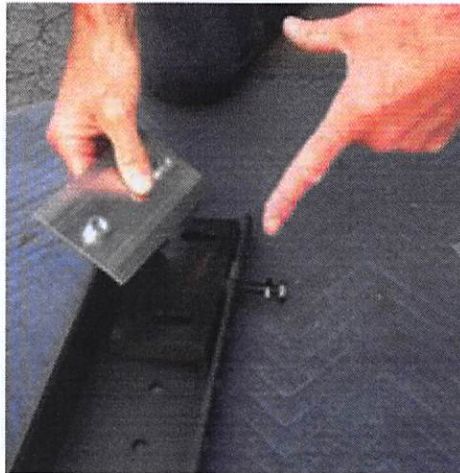

Figure 11: The bolts installed into the bottom of the bed rail
Step 13: Install (4) M10x50 bolts and M10 hex nuts into the clip nuts. The threads of the bolts should not pass the end of the clip nut threads. Figure 11 shows the bolts installed into the clip nuts as well as proper orientation of the clamp block and nut plate.